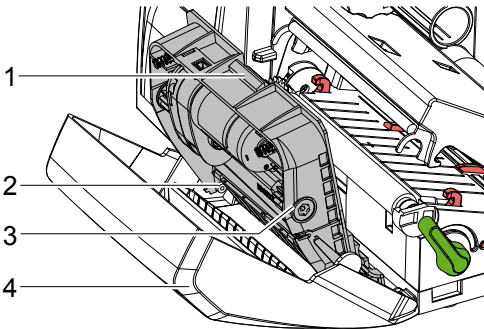

Fig. 20 Dismount Cutter
- ▶ Turn shaft (6) clockwise using a torx wrench TX10 until the gear racks (7) cannot engage anymore.
- ▶ Pull upper blade (9) out of the guides (8).
- ▶ Take out lower blade (10).
- ▶ Push lower blade down into the guides (11).
- ▶ If necessary, put springs (12) back into spring retainers (13).
- ▶ To re-mount the upper blade push lower blade down on the cover and push upper blade into the guide until the gear racks (7) can engage with the gear wheels (5).
- ▶ Turn shaft (6) counterclockwise using a torx wrench TX10 until the blade reaches the upper limit.
5. Fit blade unit (3) according to Fig. 20 into the axes (2) and fold it towards the cover (4) until it snaps in.